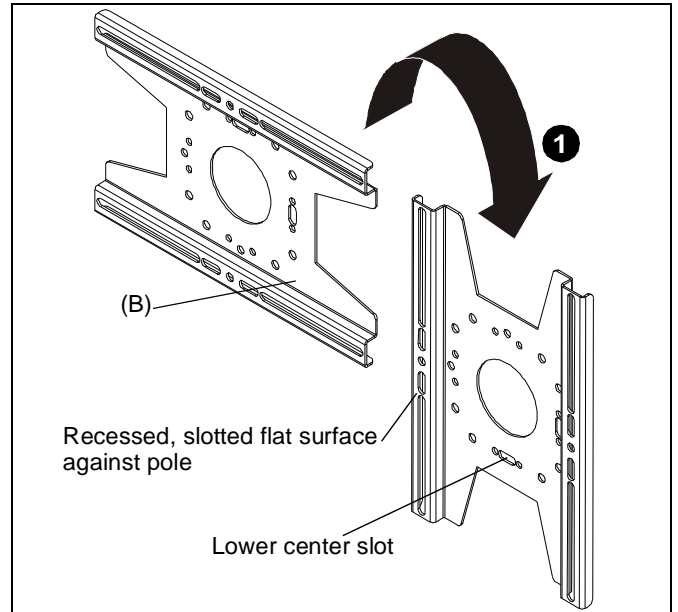

Figure 6
1. Rotate the truss plate (B) 90° and verify it is properly oriented for horizontal mounting. (See Figure 6)